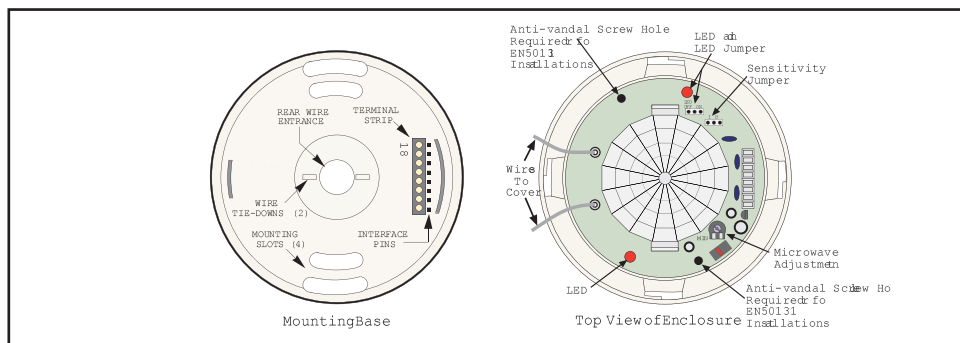

Figure 2.2: Mounting
3. Route wiring as necessary to the rear of the base and through the center hole. Refer to Figure 2.2.